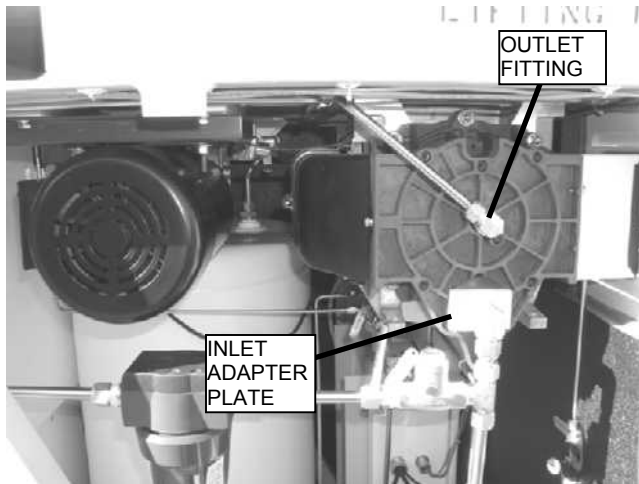

Figure 1. View of Scroll Compressor In the EDOCS-120.
- Open the left front door to gain access to the scroll compressor. Refer to Figure 1 for the location of the scroll compressor and the attached components.
- Remove the inlet adapter plate from the scroll compressor. Refer to Figure 1.
- Remove the outlet tube from the outlet fitting. Refer to Figure 1.